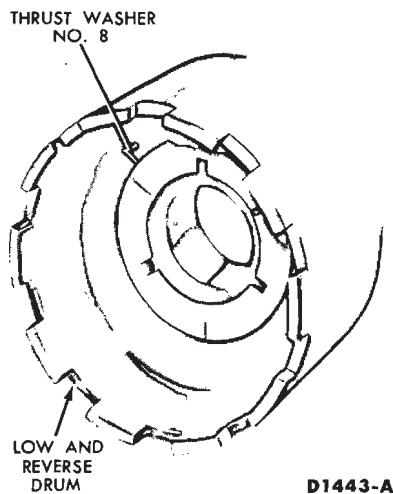

FIG. 102—Number 8 Thrust Washer Location
17. Install thrust washer No. 8 on top of the low and reverse drum (Fig. 102). Install the low-reverse band in the case, with the end of the band for the small strut toward the low-reverse servo (Fig. 43).